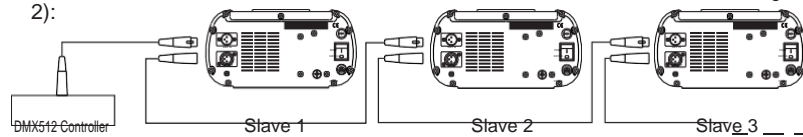

Fig. 2
- ① If you need Master/Slaves to change color synchronously, please set all of slaves into "001";
- ② If you need Master/Slaves to chase to change color, please set slaves into "009", "017" and so on (add "8" one after another).
(3) The connection of DMX Signal Control Mode(See Fig. 2):